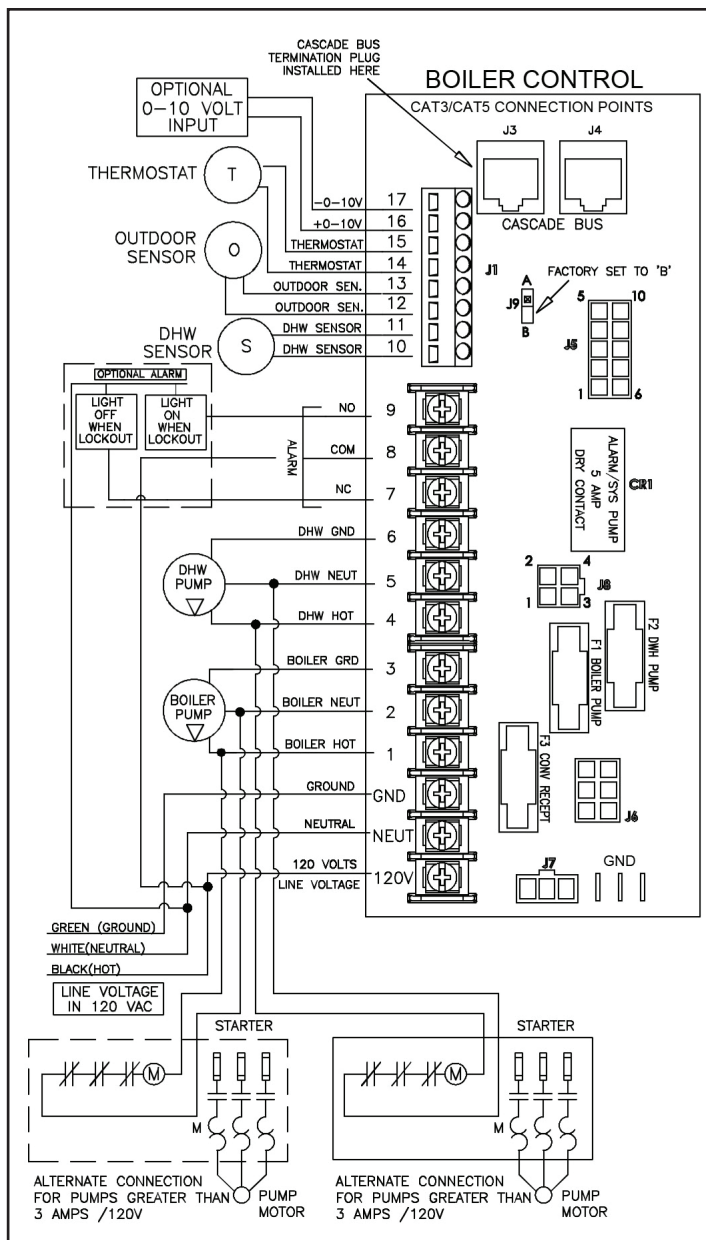

Figure 23 - Control Wiring
**NOTE:** A termination plug is included in the CAT 3 / CAT 5 Bus Connection Point, labeled J3 in Figure 23. DO NOT REMOVE THIS PLUG! Doing so will affect boiler operation and void warranty.
1. Connect the incoming power wiring to the line voltage terminal strip in the electrical junction box at terminals LINE 120V, Neutral, and Ground (shown in Figure 23).
The control includes a dry contact alarm output. This is an SPDT circuit, rated at 5 amps at 120 volts. This contact can be used to activate an alarm light or bell or notify a building management system if the boiler goes into a lockout condition. The circuit between the ALARM COM and NC terminals is closed during normal operation and the circuit between ALARM COM and NO is open during normal operation. The connections depicted in Figure 23 show two 120 volt lights connected to the alarm terminals. One light will be on when the boiler is in normal mode and the other light will be on when the boiler is in lockout mode.
1. All low voltage cables should enter the electrical junction box through the provided knock out holes as shown in Figure 23.
1. Connect the room thermostat to the terminals marked THERMOSTAT in the electrical junction box (shown in Figure 23). Alternately, any dry contact closure across these terminals will cause the boiler to run. Caution should be taken to ensure neither of the terminals becomes connected to ground.
1. If using an outdoor sensor, connect wires for sensor to the terminals marked OUTDOOR SEN (shown in Figure 23) in the electrical junction box. Caution should be used to ensure neither of these terminals becomes connected to ground.
2. Connect the indirect tank sensor (7250P-325) to the terminals marked DHW SENSOR (shown in Figure 23) in the electrical junction box.
2. Connect a building management system or other auxiliary control signal to the terminals marked 16, 0-10 VOLT + and 17, 0-10 VOLT – in the electrical junction box (shown in Figure 23). Caution should be used to ensure that the 0-10 VOLT + connection does not become connected to ground.